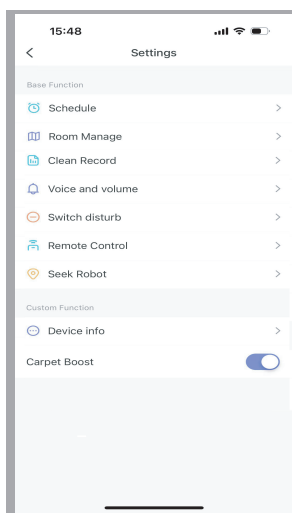

Fig. 18
E). More functions please click the icon  on the main interface and enter the interface of Fig.18: users can set the cleaning schedule, manage room, check the cleaning record, turn on / off the voice or switch the languages, check the device information, turn on / off the carpet boost, etc.